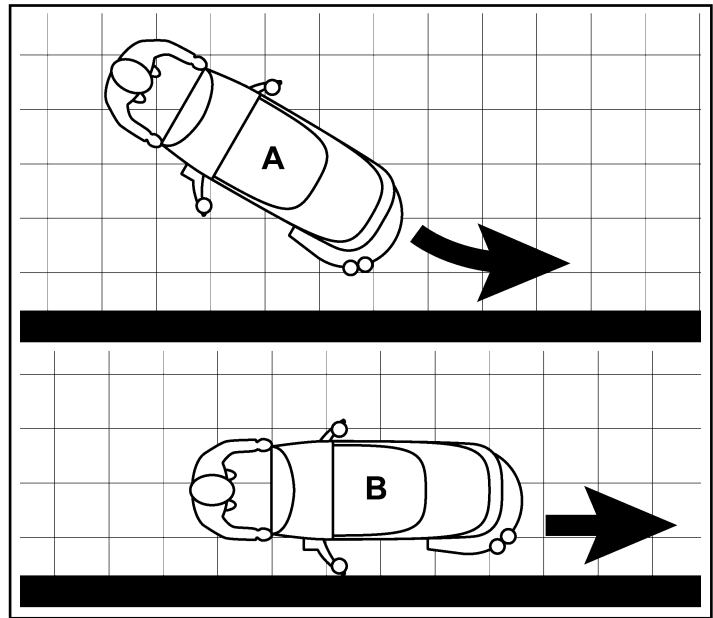
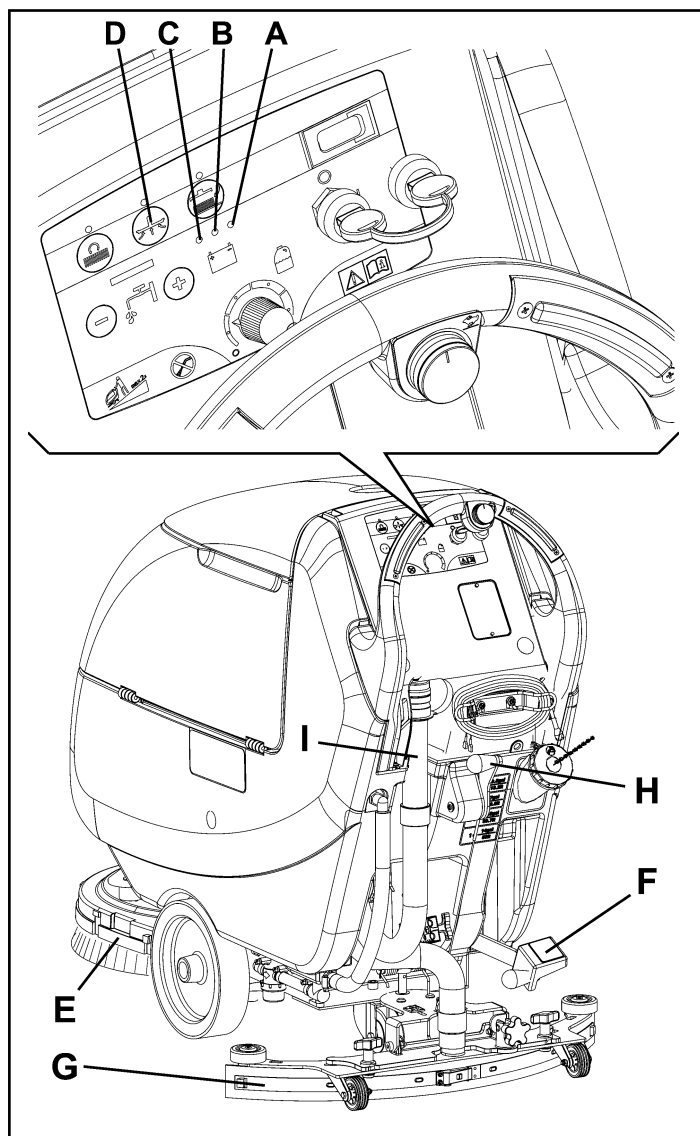
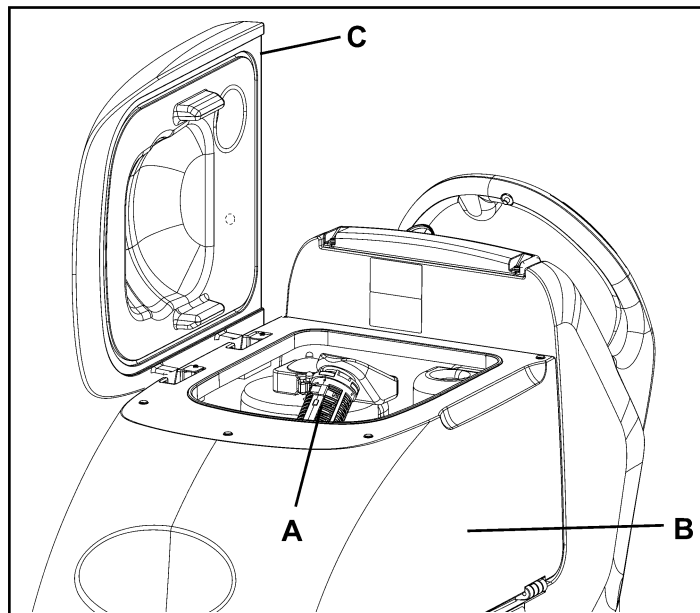

Figure 19
Figure 21
Figure 22
For correct scrubbing/drying of floors at the sides of the walls, Clarke suggests to go near the walls with the right side of the machine (A and B, Fig. 19) as shown in the figure.
Until the green warning light (A, Fig. 21) stays on, the batteries allow the machine to work normally. When the green warning light (A) turns off, and the yellow warning light (B) turns on, it is advisable to charge the batteries, because the remaining charge will last for a few minutes (depending on battery characteristics and work to be performed). When the red warning light (C) turns on, batteries are fully discharged. After a few seconds, the brush/pad-holder is automatically tuned off, while the vacuum system and (only for **FOCUS II L17, FOCUS II L20, FOCUS II L20 Cyl., BOOST L20**) the drive system stay on, to finish drying the floor and drive the machine to the appointed recharging area.
An automatic float shut-off system (A, Fig. 22) stops the vacuum system when the recovery water tank (B) is full. The vacuum system deactivation is signaled by a sudden increase in the vacuum system motor noise frequency, also the floor has not dried.
If the vacuum system turns off accidentally (for example, when the float is activated because of a sudden machine movement), to resume the operation: turn off the vacuum system by pressing the switch (D, Fig. 19), then open the cover (C, Fig. 22) and check that the float inside the grid (A) has gone down to the water level. Then close the cover (C) and turn on the vacuum system by pressing the switch (D, Fig. 19).
When the recovery water tank (B, Fig. 21) is full, empty it according to the following procedure.
2. Lift the brush/pad-holder deck (E, Fig. 21) by pressing the pedal (F).
3. Lift the squeegee (G) with the lever (H).
5. Empty the recovery water tank with the hose (I). Then, rinse the tank (B, Fig. 22) with clean water.